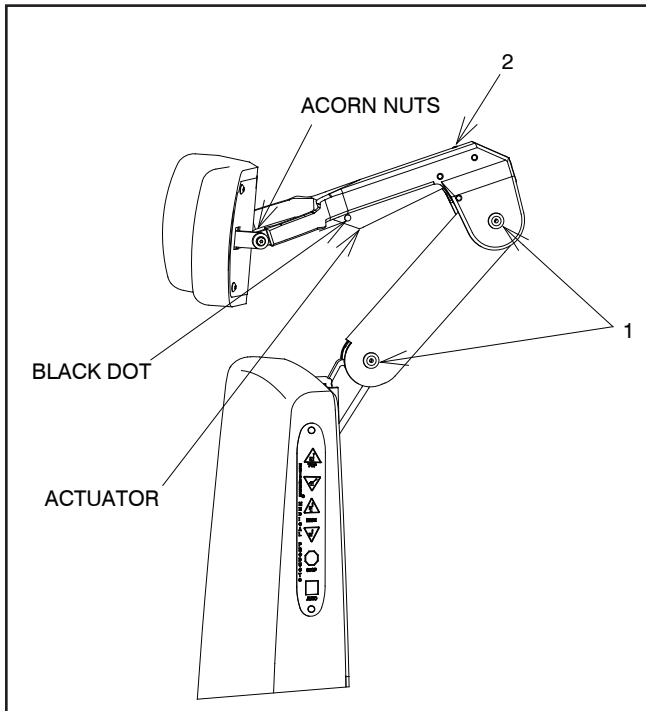

FIGURE 4
3.9.2.1. The No. 18, 22 headrest is designed so it can be operated with just one hand. To unlock, squeeze the clear plastic actuator into lock housing. This will allow both pivots of the articulating arm to rotate so the headrest can be moved to a new desired position. Once in the new position, release the actuator. Make sure the actuator expands to its original position fully exposing black dot on handle to insure a positive lock. The headrest pad is free to rotate at all times. (See Figure 4).
3.9.3.1. There are three adjustments provided on the No. 18, 22 headrest. The first is the tension on the pad rotation. By tightening the two hex acorn nuts on the pad pivots with a 3/8" open end wrench, the tension will be increased. To adjust the drag on the pivots of the articulating arm, loosen the set screw in the center of the pivot (Figure 4, item 1) with a 3/32" hexagon key wrench. Next, tighten the pivot screw on the other side of the pivot, with a 1/8" hexagon key wrench. Now, retighten the set screw to retain the pivot screw at the new adjustment. Either pivot may be adjusted.
3.9.3.2. The third adjustment is for proper clearance of the block dot to indicate that the headrest is properly locked. If the dot does not fully clear the lock housing when the headrest is lock securely, turn the set screw located at the top of the lock housing (Figure 4, item 2) counterclockwise until the dot on the actuator is fully exposed.